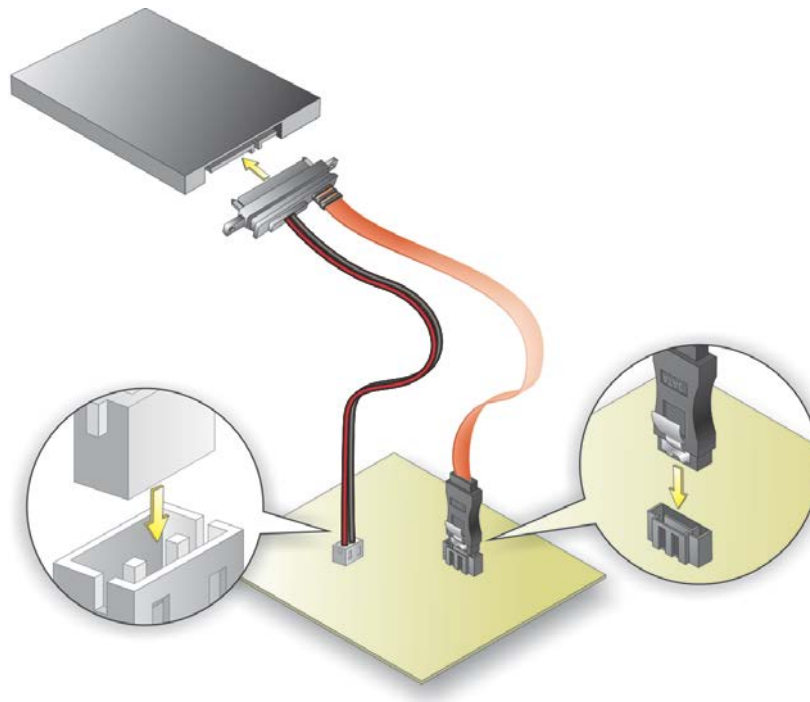

Figure 4-20: SATA Drive Cable Connection
Step 2: Insert the cable connector. Insert the cable connector into the on-board SATA drive connector and the SATA power connector. See **Figure 4-20**.
Step 3: **Connect the cable to the SATA disk.** Connect the connector on the other end of the cable to the connector at the back of the SATA drive. See **Figure 4-20**.